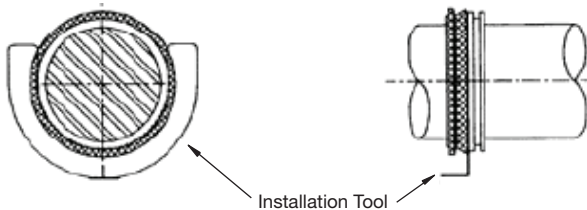

Figure 4a
- Place one of the installation tools between the lip of the V-ring seal and the center ring on the seal ring (Figure 4a). Repeat the procedure for the second seal assembly. Rotate the tool(s) to the lower position to facilitate assembly of the bearing and seal(s) into the housing base (Figure 4a).